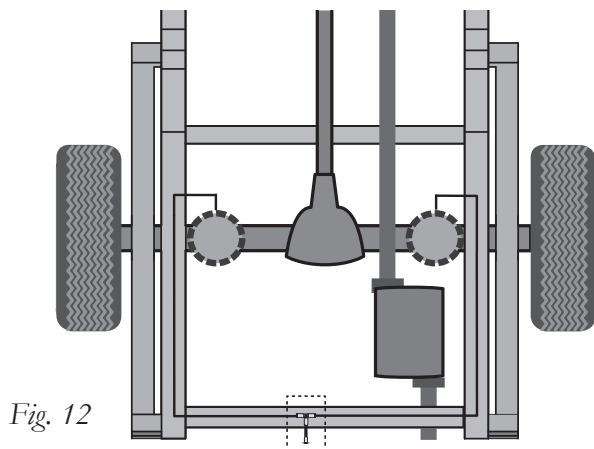
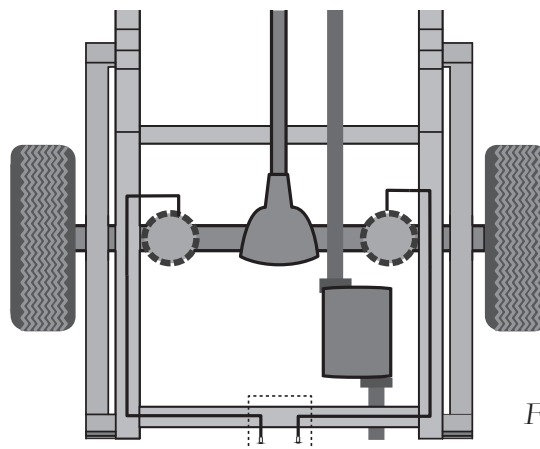

Fig. 12
Fig. 13
1. A single-path air line installation is recommended for vehicles that typically have even weight distribution (Fig. 12). If weight in the vehicle varies from side to side and unequal pressures are needed to level the load, use a dual-path installation. For dual-path air line installations, eliminate the tee fitting (L) and route separate air lines for both air springs (Fig. 13).